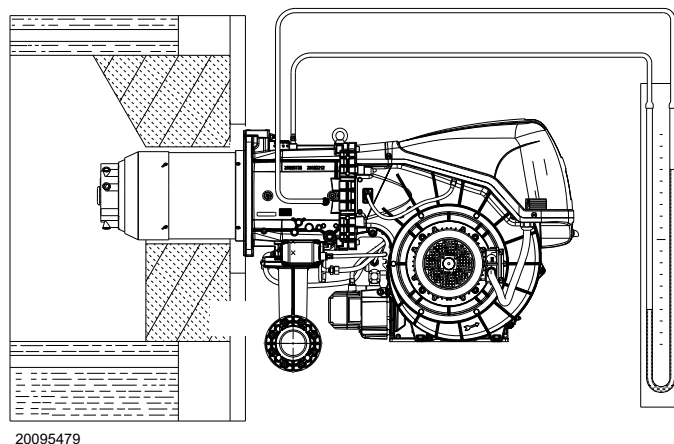

Fig. 33
- Fit a U-type pressure gauge or a differential pressure gauge (Fig. 33), with socket (+) on the gas pressure of the pipe coupling and (-) in the combustion chamber.
The arrival of gas at the sleeve is indicated by the U-type manometer (Fig. 33).